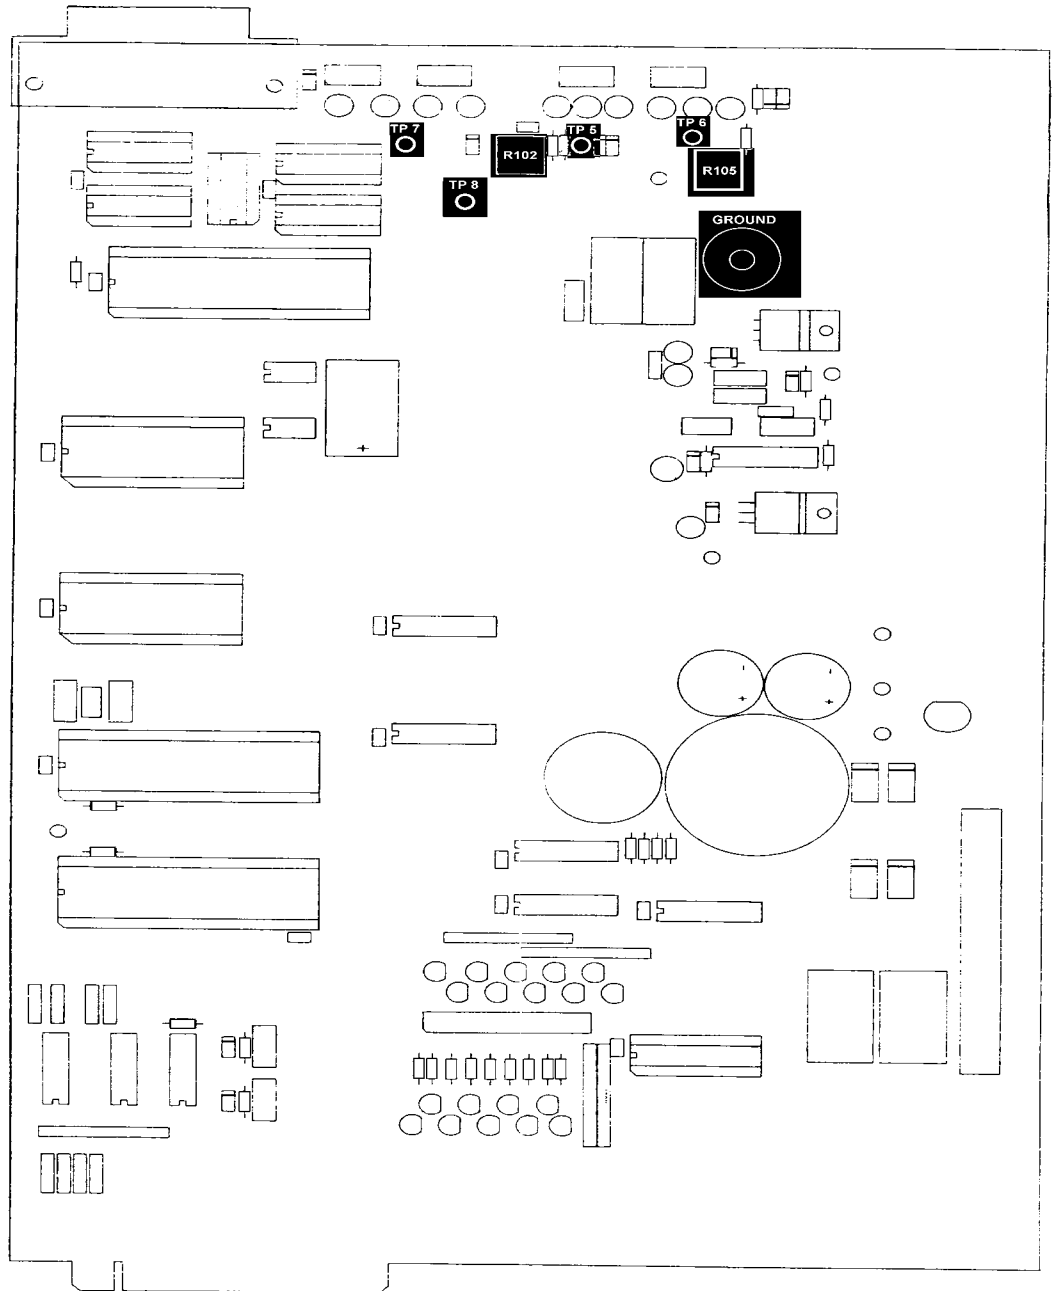

Figure 1. Microprocessor card.
- a. Connect digital multimeter to microprocessor card TP 6 and card ground (fig. 1).
- b. Adjust R105 (fig. 1), located to the left of the rear panel **CH 1 INPUT BNC** connector for digital multimeter indication of  $-15\text{ V} \pm 0.05\text{ V}$ .
- c. Connect digital multimeter to microprocessor card TP 5 and card ground (fig. 1).
- d. Adjust R102 (fig. 1) for digital multimeter indication of  $+15\text{ V} \pm 0.05\text{ V}$ .
- e. Connect digital multimeter to microprocessor card TP 7 and TP 8 individually, and card ground (fig. 1).